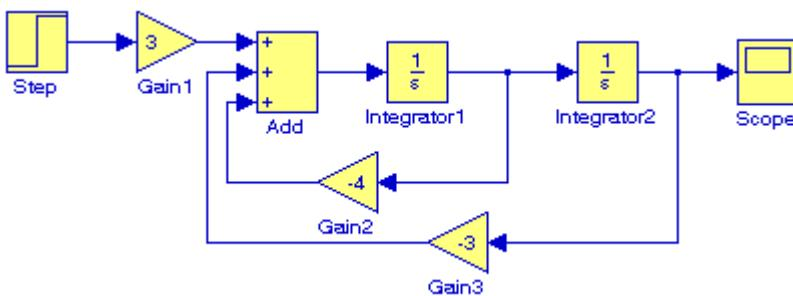

Figure 1.12. File Equation_1_26 complete block diagram
7. To complete the block diagram, we add the **Scope** block which is found in the **Commonly Used Blocks** on the **Simulink Library Browser**, we click on the Gain block, and we copy and paste it twice. We flip the pasted Gain blocks by using the **Flip Block** command from the **Format** drop menu, and we label these as Gain 2 and Gain 3. Finally, we double-click on these gain blocks and on the **Function Block Parameters** window, we change the gains from to -4 and -3 as shown in Figure 1.12.